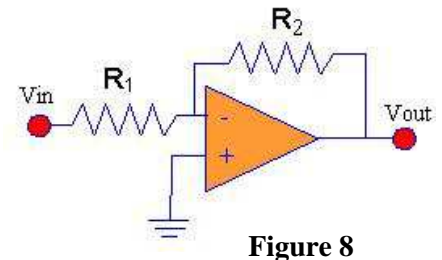

Figure 8
- 1- Construct the Op-Amp circuit as shown in Figure 8 using  **$R_1 = 1K\Omega$  and  $R_2 = 2.2K\Omega$** .
- 4- Calculate the voltage gain  $A_v$ . **Figure 8** 5- What is the phase shift between the input and the output signals?